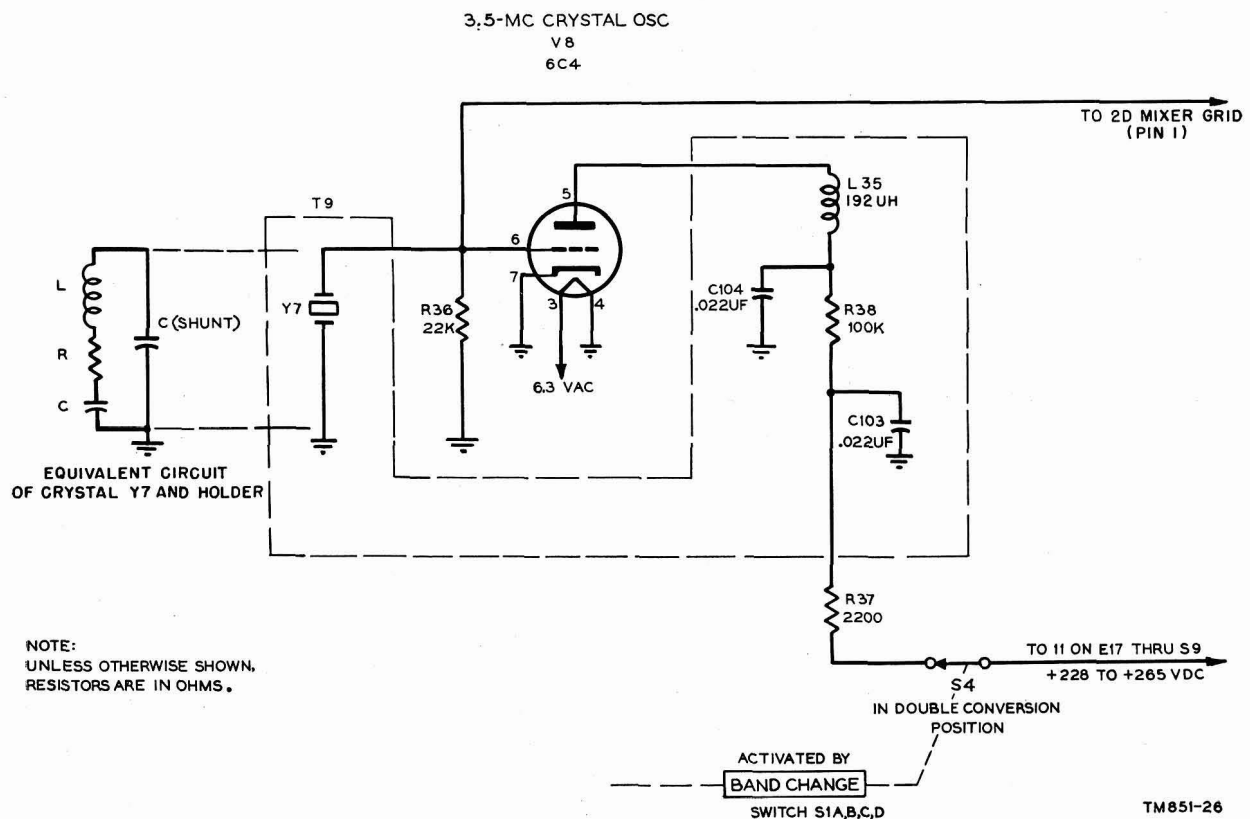

Figure 32. Radio receiver, all types, schematic diagram of 3.5-mc crystal oscillator.
(fig. 32)
b. Plate voltage is applied (from terminal 11 of terminal board E17) through S9 and S4 (in the double conversion position), the decoupling circuit (resistor R37 and capacitor C103), the plate circuit decoupling network (plate voltage-dropping resistor R38 and plate r-f bypass capacitor C104), and r-f choke L35. Self-bias, provided by grid-leak resistor R36, is used so that the oscillator is self-starting. When the crystal and its holder are replaced by their equivalent circuit (fig. 32), the effective capacitance shunting R36 is equivalent to a grid-leak capacitance.